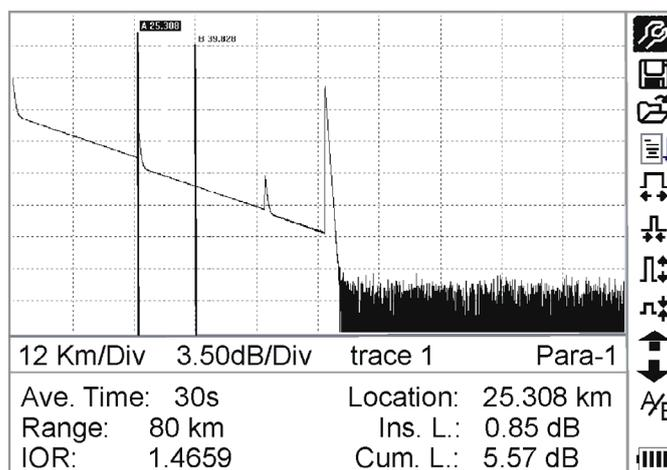

Figure 37.- Trace Measurement of **PROLITE-50/51/52**
- 3 After a certain period of time, the trace displays on the **GUI**. The trace in the Figure below is a trace during measurement, which will be refreshed for every certain period of time to demonstrate the whole process to users in real time. But at the end of measurement, the trace will be final, as shown in figure 37.
Under **GUI** of figure 37, press  and the items of information window will display in circulation: measurement parameter → analysis information → Event list → information of marker A/B → measurement parameter
Under **GUI** of figure 37, press , items in information window will switch to event list information.